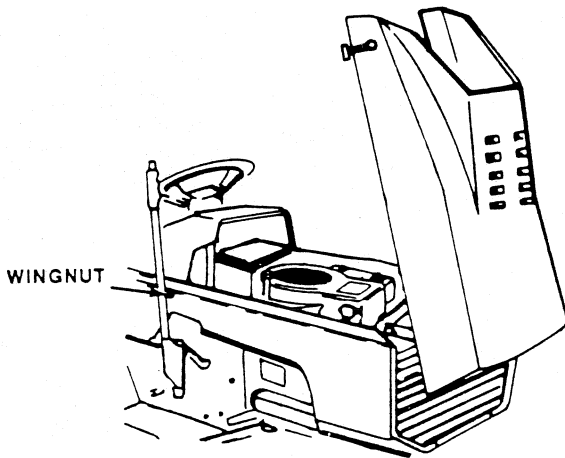

FIGURE 25
- To remove hood, grill and side panels, raise hood and loosen wing nut on each side panel. (Fig. 25).